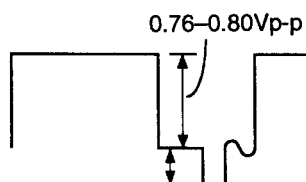

Fig. 9
3. Adjust RV102 so that the amplitude from pedestal to peak become 0.76–0.80Vp-p. (Fig. 9)